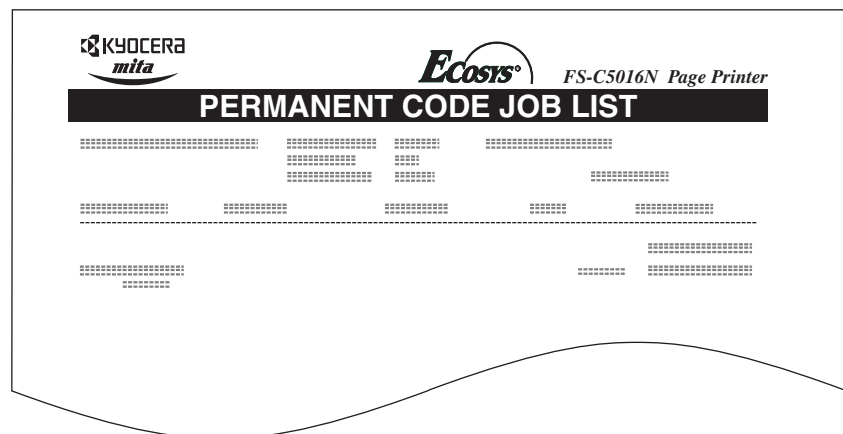

Figure 3-5
- 6** Press the **ENTER** key again. The printer prints a Code Job list as shown in Figure 3-5 below.